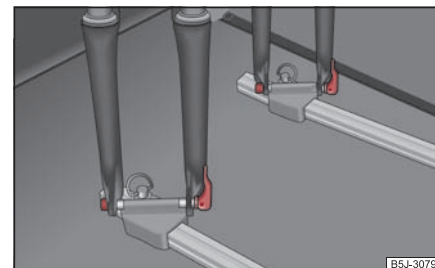

Fig. 94 Put in the bicycle
- Fit the bicycle fork onto the fixing axle and tighten with the quick tension jack ⇒ fig. 94.